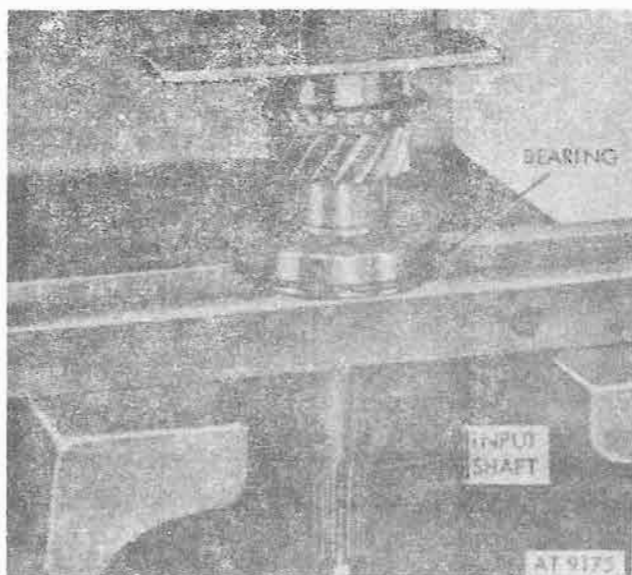

Figure 8-42. Installing bearing on input shaft.
a. Using arbor press, position bearing on input shaft and press into position (fig. 8-42).